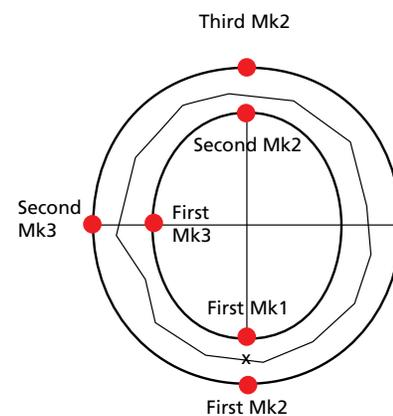

Figure 5-27
1. At the bottom middle of the inside circle of the letter o enter the first Mk1 (see Figure 5-27).
2. Enter the first Mk2 at the bottom of the outside circle of the letter (see Figure 5-27).
3. Enter your first Mk3 for defining the curvature of the inside line of the left arc directly on the inside boundary of the o, 90 degrees away as plotted in Figure 5-27.
4. Enter the second Mk3 for defining the curvature of the outside line of the left arc directly on the outside boundary of the o, 90 degrees away as plotted in Figure 5-27).
5. Enter the second Mk2 defining the end of the inside of the column directly at top of the inside circle of the letter (see Figure 5-27).
6. Enter the third Mk2 to define the end of the outside of the column directly at the top of the outside circle of the letter (see Figure 5-27).